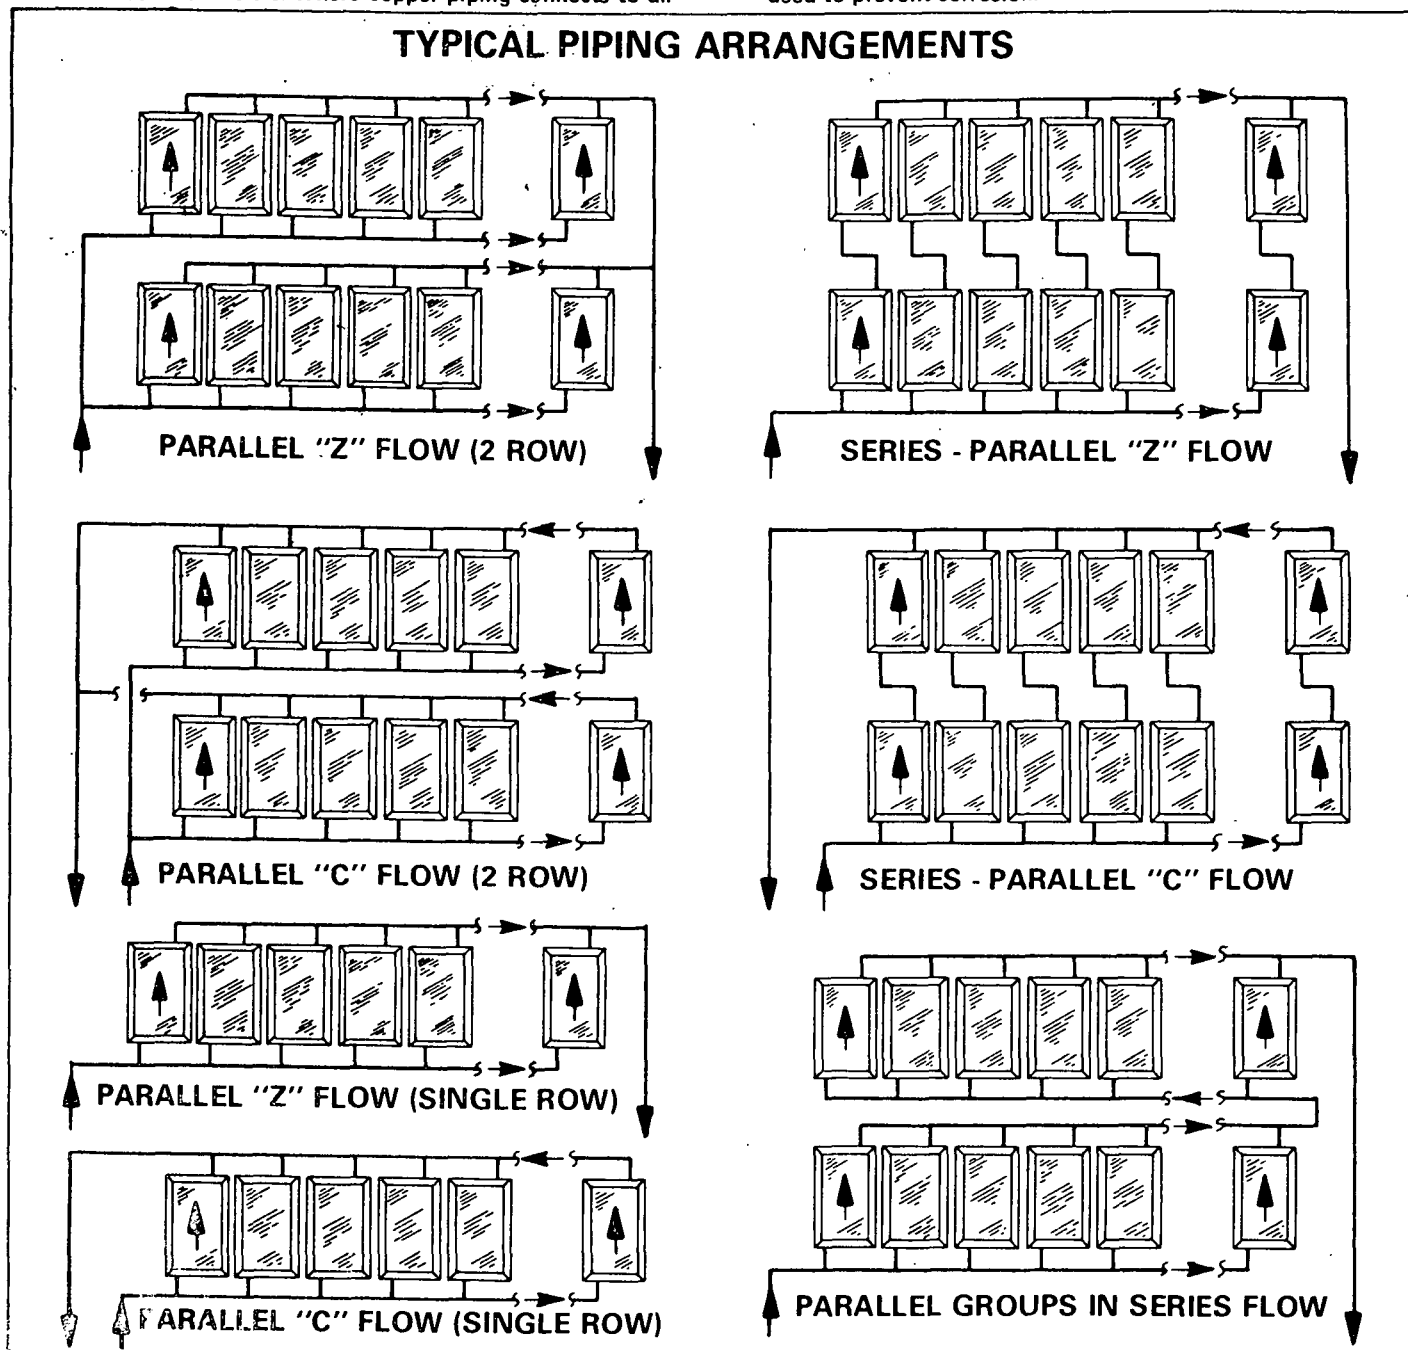

FIGURE 14
- 1 - The solar collectors can be assembled in parallel, series or series-parallel combinations. Figure 14 illustrates various sequencing arrangements. The supply header is always positioned at the bottom side of collectors while the return header is on the top.